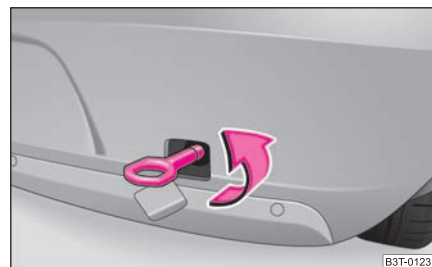

Fig. 211 Rear bumper:
- Screw in the towing eye anticlockwise down to the stop ⇒ fig. 211 and tighten up using the wheel wrench (push the wheel wrench through eye).